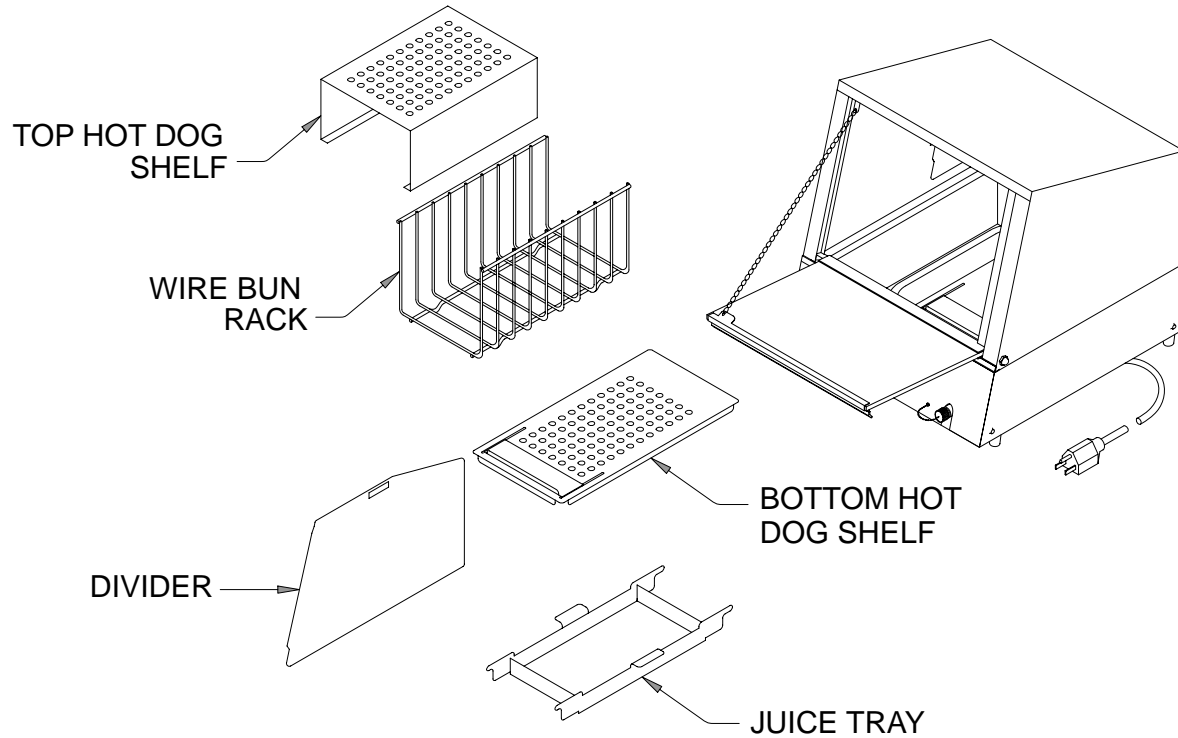

Figure 1.
2. Remove the following items from the unit (see figure 1).